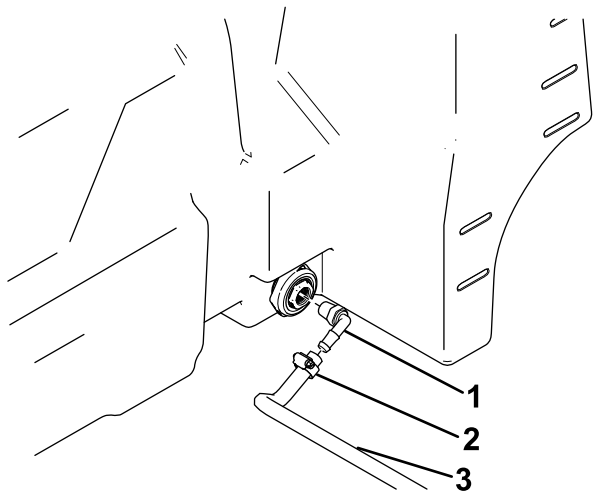

Figure 4
9. Attach a 90° hose fitting to the tank (Figure 4).
Note: Ensure that the 90° hose fitting is angled as shown in Figure 4.
10. Secure 1 end of the 2.4 m (96 inch) hose to the 90° hose fitting with a hose clamp (Figure 4).